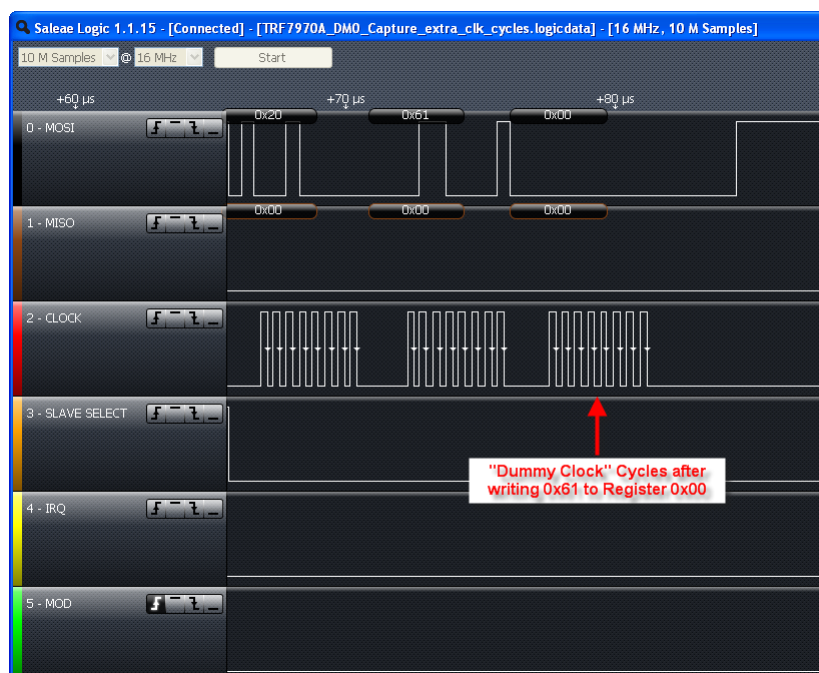

Figure 5-27. Entering Direct Mode 0
4. Send extra eight clock cycles (see Figure 5-27, this step is TRF7970A specific)